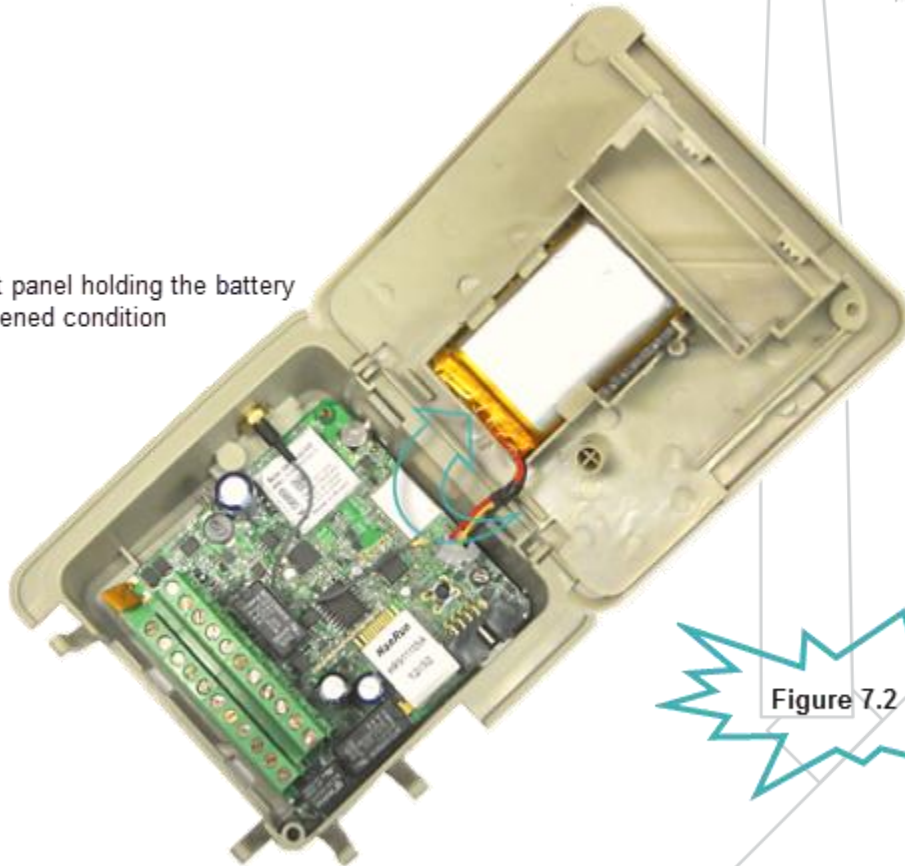

Figure 7.2
2. Open the **Front Panel** as shown in **Figure 7.2**.